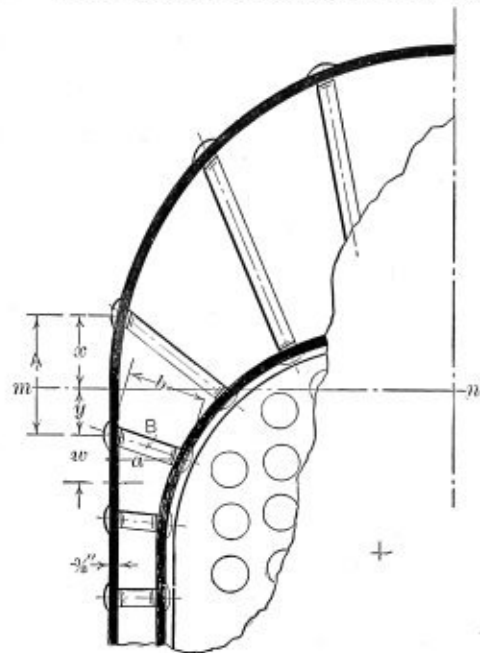

Fig. 1
Q.—Referring to sketches, Figs. 1 and 2, of a locomotive firebox boiler, wet bottom type; first, please give the proper formula for figuring the steam pressure that can be safely carried by the outside plate spanning the space *A*, Fig. 1, part of which plate is curved and part straight, as shown. Also formula for figuring the load carried by staybolt *B*. Second, in the water bottom, Fig. 2, what is the proper formula for figuring the load that can be safely carried by the bottom plate spanning the space *E*; also if *E* is  $5\frac{1}{2}$  inches and *F*  $4\frac{1}{2}$  inches by  $4\frac{1}{2}$  inches, how much more will staybolt *G* have to carry than staybolt *H*? H. C. H.
The center line *m-n*, Fig. 1, is the division line between the curved surface *x* and the flat surface *y* of plate *A*. Since *x* is a part of the circular section, this portion of the plate need not be considered. The section *y*, however, being a flat surface, the stay *B* must be so placed and of such a size as to support the flat plate section *y* and prevent it from bulging; also the section of plate *w*, which is midway between the staybolt *B* and the bolt below it. According to the A. S. M. E. Code, Article 199, page 49, the following is given concerning the allowable pressure:
In calculating the stress on the radial staybolts the greatest area in the crown sheet end that they support should be employed. The load on staybolt *B* may be determined in several ways. We will consider two methods of finding the load, either of which will serve as a check or proof of the result. The load on the surface supported by the stay is found by multiplying the greatest area supported by the stay by the maximum steam pressure. Thus, for example, the area equals  $4 \times 4$ , or 16 square inches. Steam pressure equals 125 pounds per square inch, then  $16 \times 125$  equals 2,000 pounds total pressure on the surface. The stay *B* being inclined to the horizontal, has as a result a greater pull on it than if it were at right angles to the surface it supports. Assume that the horizontal distance *a*, Fig. 1, equals 8 inches, and the diagonal distance *b*,  $8\frac{1}{2}$  inches, then the load on the stay is found as follows: